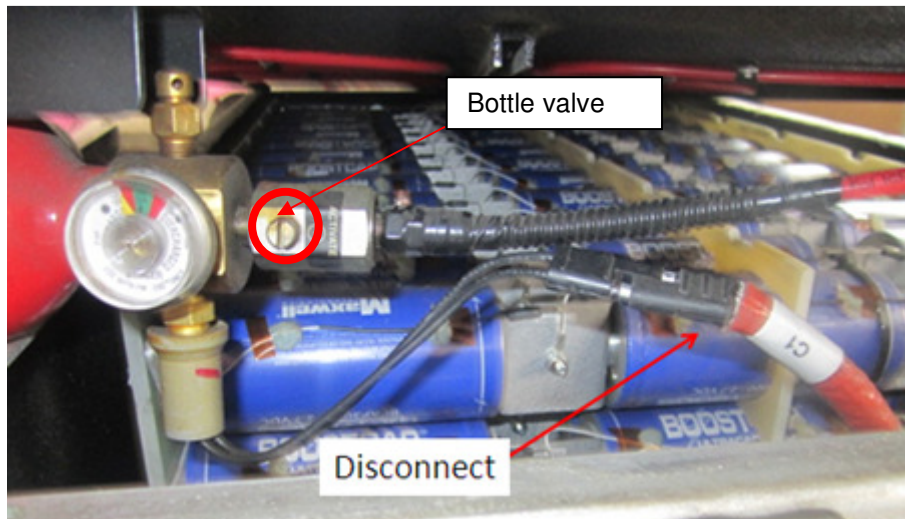

Fig 3 – Fire bottle harness
- c. Deactivate (refer to orientation sticker on bottle) the bottle valves on both bottles using a flat head screw driver and disconnect the fire bottle harness connection before fully opening cabinet covers and setting aside. See Fig 3.